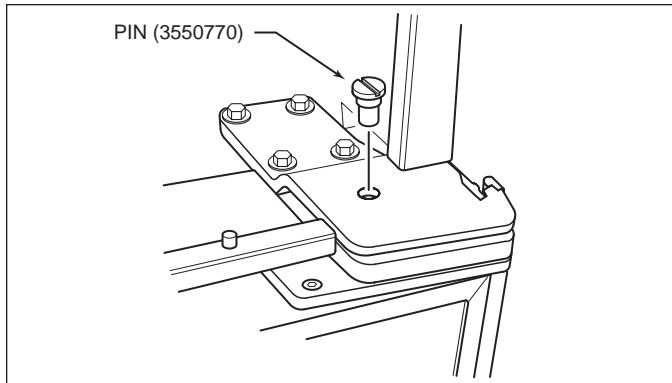

Figure 2-14. 90° Stop Pin (611-2, 650-2)
- With door closed, insert door stop pin down into threaded hole in top cabinet hinge and tighten (See Figure 2-14). Then, reinstall unit grille.